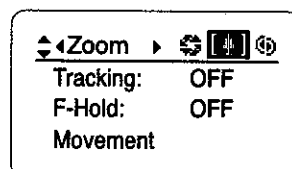

Fig. 2-12
(See Fig. 2-12)
2. Push the Set key, and push the right key to display the Zoom screen. (See Fig. 2-12)